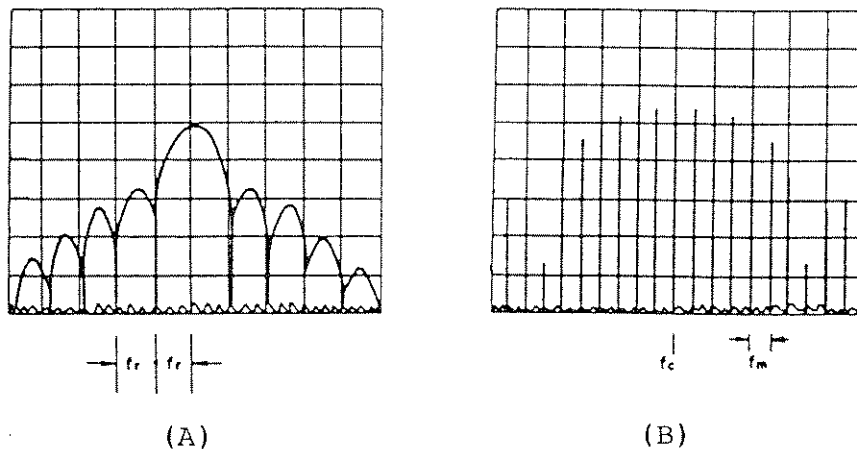

Fig. 6-6 PAM Wave Spectrum Display Examples
(5) PAM wave measurement
The spectrum display of a PAM wave like that shown in Fig. 6-6 is obtained by the measurement display expansion procedure of item (1). The pulse width τ of the modulation pulse is obtained from the difference frequency f_r between the discontinuous points of the main lobe and side lobe of the pulse spectrum shown in Fig. 6-6(A) ($\tau = 1/f_r$).
Furthermore, when each sideband spectrum is analyzed by expanding the spectrum, the spectrum display shown in Fig. 6-6(B) is obtained and the carrier frequency f_c and pulse repetition frequency f_m are measured.